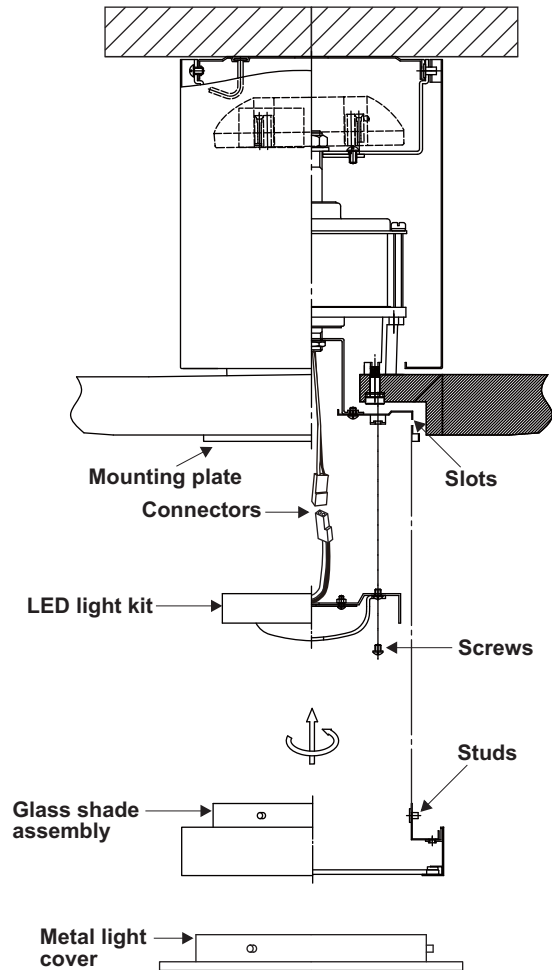

Figure 8
2. Raise and hold the LED light kit close to the mounting plate and proceed to do the wire connections. Make the 2-pin wire connections: (Fig. 8)
3. Place the key holes from the light kit over the 2 screws previously loosened from the mounting plate, turn the light kit until it locks in place at the narrow section of the key holes. Secure by tightening the 2 screws previously loosened and the one previously removed. (Fig. 8)